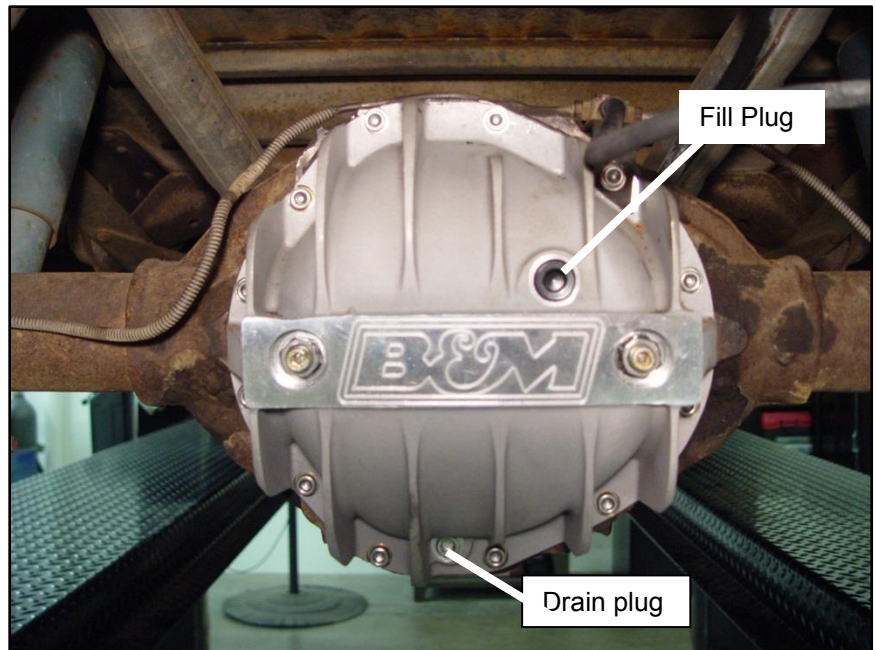

Figure 5
STEP 16. Install the supplied magnetic 1/4" NPTF drain plug on the **B&M Cast Aluminum Rear End Cover** and tighten (See **Figure 5**).
B&M Cast Aluminum Rear End Cover fill plug hole (See **Figure 5**). Add gear oil until oil runs out of the axle housing fill hole.